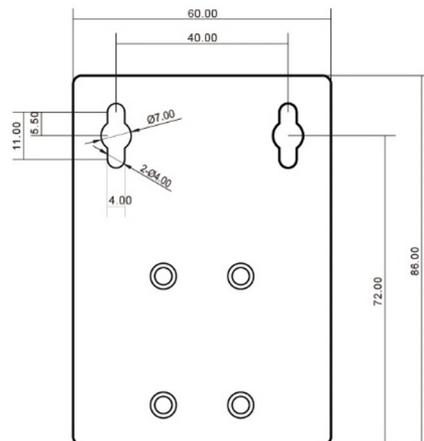

Figure 6. Wall Mount Bracket Dimensions
2. Using the mounting bracket as a template, mark the location on the wall to insert user-provided screw anchors. Screw anchors should be rated to support a minimum of 2.2 pounds (1 kg) for the intended wall mount surface. Wall mount bracket dimensions are shown in Figure 6.